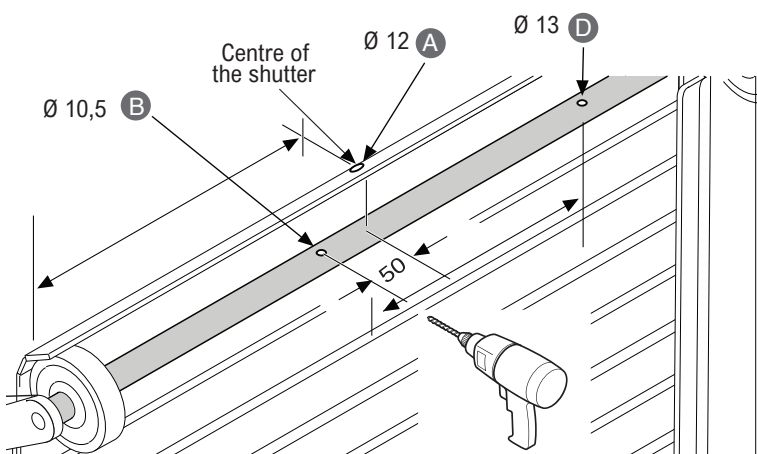

Fig. 1
- Remove M10 hexagonal-head screw from the motor's crown. Unscrew the two M8 screws to remove the half-crowns from the motor. Carefully remove the black plastic band avoiding any folding. Unscrew the four M8 screws to separate the upper part of the gear motor from the lower half (fig. 1). If the shaft's size is smaller than 60mm use the provided shaft adapters to adjust the diameter and place them at the Ø10.5 mm hole previously drilled. Assemble back the upper part and the lower part of the gear motor on the shaft using the four M8 screws.